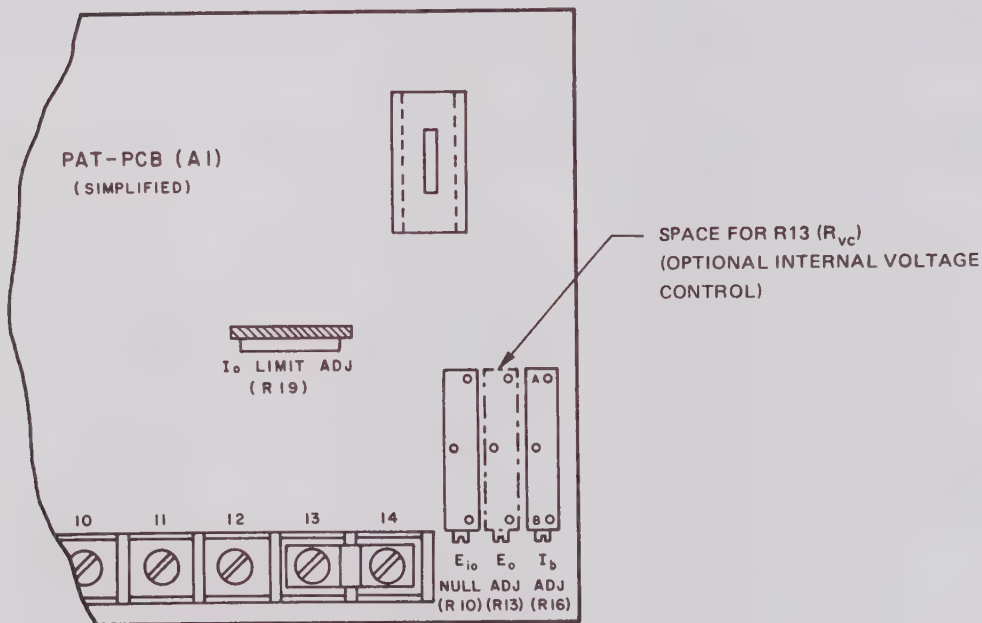

FIG. 5-2 INSTALLATION OF OPTIONAL CONTROLS.
- 5-6 CURRENT LIMITING CONTROL ADJUSTMENT (Refer to FIG. 5-2) A single-turn potentiometer (R19) conveniently located on the topside of the printed circuit board serves as an adjustment for limiting the output current through the range of 5% to 105% of its maximum rated value. It is factory-adjusted for approximately 5% above the maximum rated output current and has to be reset only if a component should have to be replaced or if a lower limit than the preset value is desired.
5-7 INSTALLATION AND ADJUSTMENT OF THE (OPTIONAL) VOLTAGE CONTROL RHEOSTAT (R_{vc}): REFER TO FIG. 5-2.
- Refer to FIG. 5-2. The voltage control resistance (R_{vc}) may be installed internally in the space on the printed circuit board as shown.